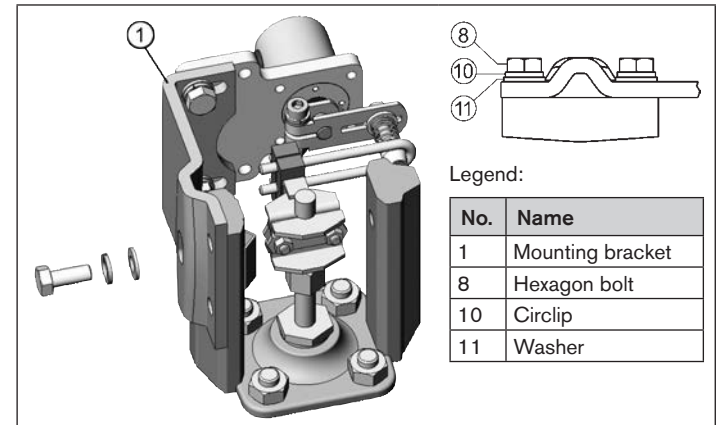

Fig. 29: Fit mounting bracket to cast frame
→ Attach mounting bracket (1) to cast frame with one or several hexagon bolts (8), circlips (10) and washers (11) (refer to "Fig. 29").